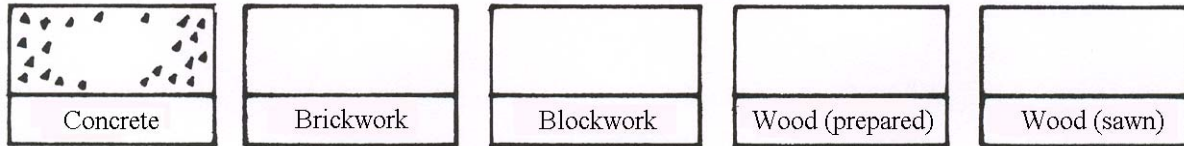

Fig. 1
- Figure 1 shows the graphical representation of concrete. Complete the boxes for the remaining materials.